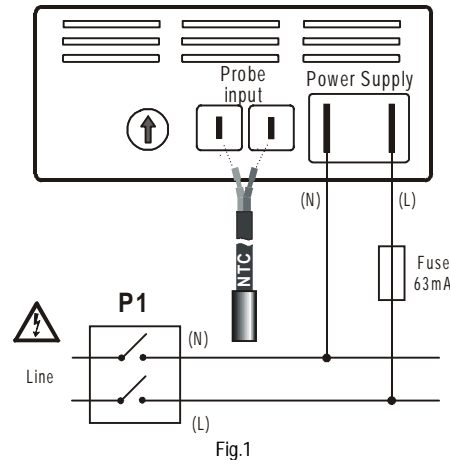

Fig.1
3. INSTALLATION - 230V OR 115V VERSION (FIG.1)
3. ⚠ **Disconnect the power supply from the board by means of the panel switch (P1 in Fig.1)**
7. If possible, the manufacturer suggests connecting the phase (L) to the fast-on on the right and neutral (N) to the fast-on on the left as indicated.
4. DISCONNECTION AND PROBE SUBSTITUTION (FIG.1)
1. ⚠ **Disconnect the power supply on the board where the instrument is positioned, by means of the panel switch (P1 in Fig.1)**